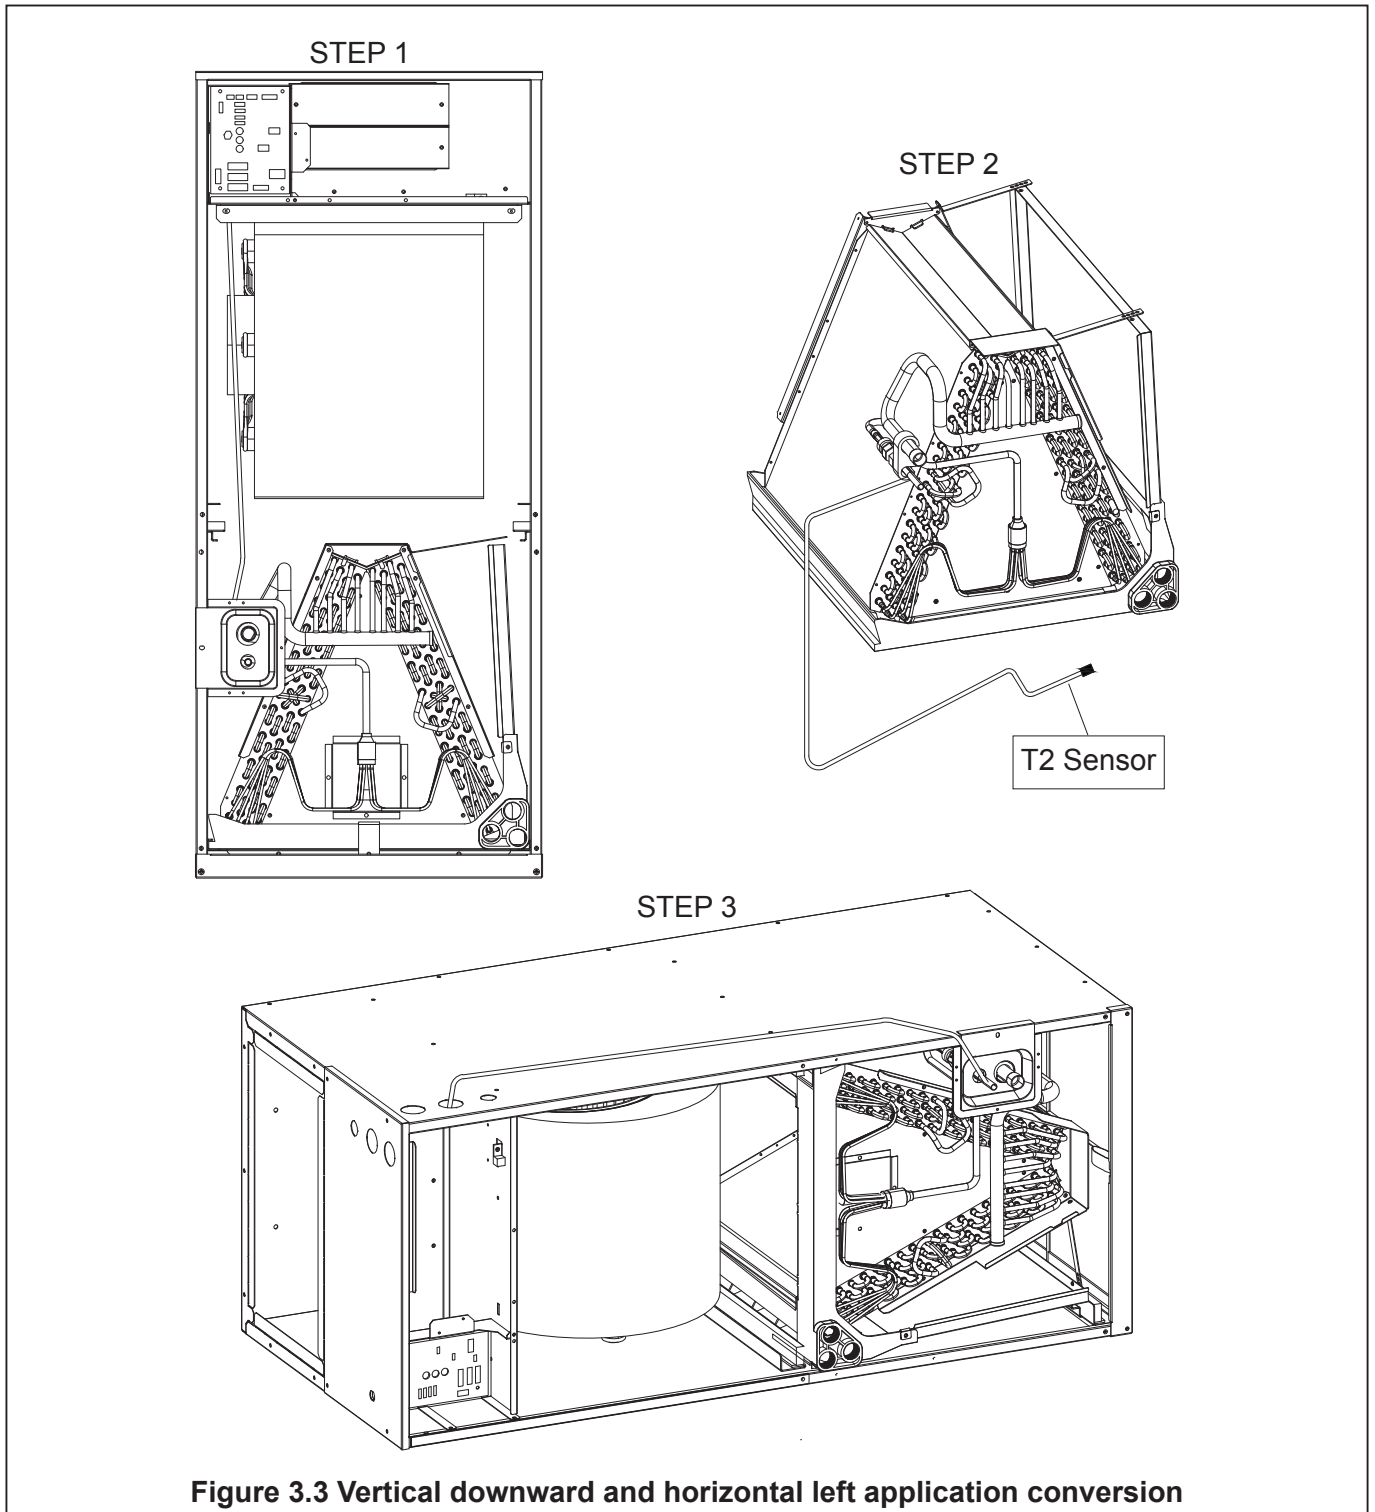

Figure 3.3 Vertical downward and horizontal left application conversion
1. Remove the screws and the front panel, and disconnect the plug of T2 sensor wire from the circuit board (Figure 3.3, Step 1).
2. Pull out the coil with sensor wire (do not disconnect T2 sensor from the liquid pipe of the coil). Pull the sensor wire out of the liquid pipe hole on the cabinet cover (see 2A in Step 2 of Figure 3.3).
3. Install the coil in the correct direction and fix it in place. Remove the knock-down hole on the side of the cabinet (Step 3 labeled 3A in Figure 3.3), connect the plug end of the sensor wire to the control board (pass the wire through the knock-down hole in the cabinet), and seal it properly. (Figure 3.3, step 3).